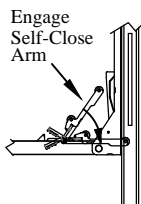

Figure 8: Step 10.
- Step 10. To close the platform, stand to the passenger's side of the platform, not under, behind or on the platform. With the platform lowered, lift the handle of the self-close arm with your hand to engage the self-close arm (Figure 8).